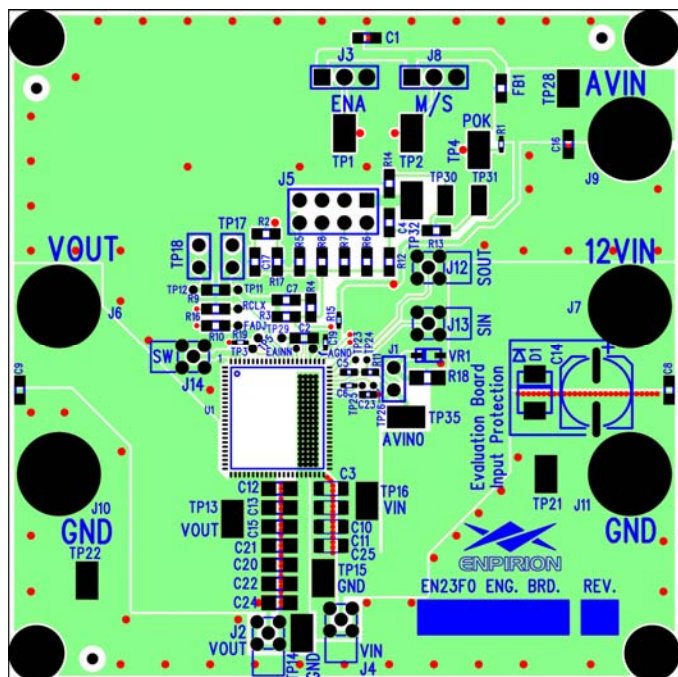

Figure 13: Top Layer of Engineering Board (Top View).
**Recommendation 6:** AVIN is the power supply for the small-signal control circuits. It should be connected to the input voltage at a quiet point. In Figure 13 this connection is made at the input capacitor.
**Recommendation 7:** The layer 1 metal under the device must not be more than shown in Figure 13. Refer to the section regarding Exposed Metal on Bottom of Package. As with any switch-mode DC/DC converter, try not to run sensitive signal or control lines underneath the converter package on other layers.
**Recommendation 9:** Keep  $R_A$ ,  $C_A$ ,  $R_B$ , and  $R_{CA}$  close to the VFB pin (Refer to Figure 13). The VFB pin is a high-impedance, sensitive node. Keep the trace to this pin as short as possible. Whenever possible, connect  $R_B$  directly to the AGND pins 52 and 53 instead of going through the GND plane.